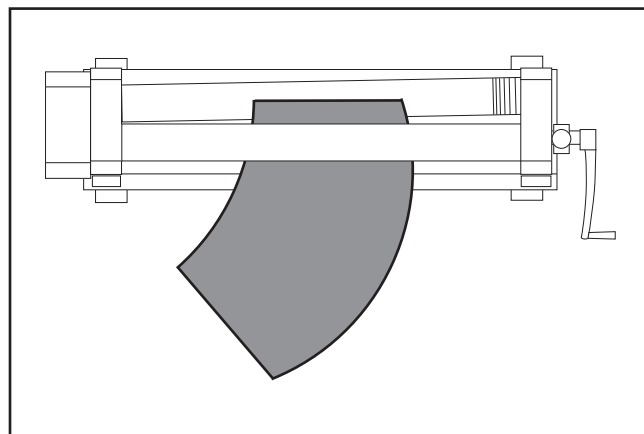

Figure 54. Example of unequal bending radii for bending a cone.
17. Adjust left radius adjustment knob further until smaller desired radius bend is reached (see **Figure 54**). This will create a smaller radius on the left side than the right side.